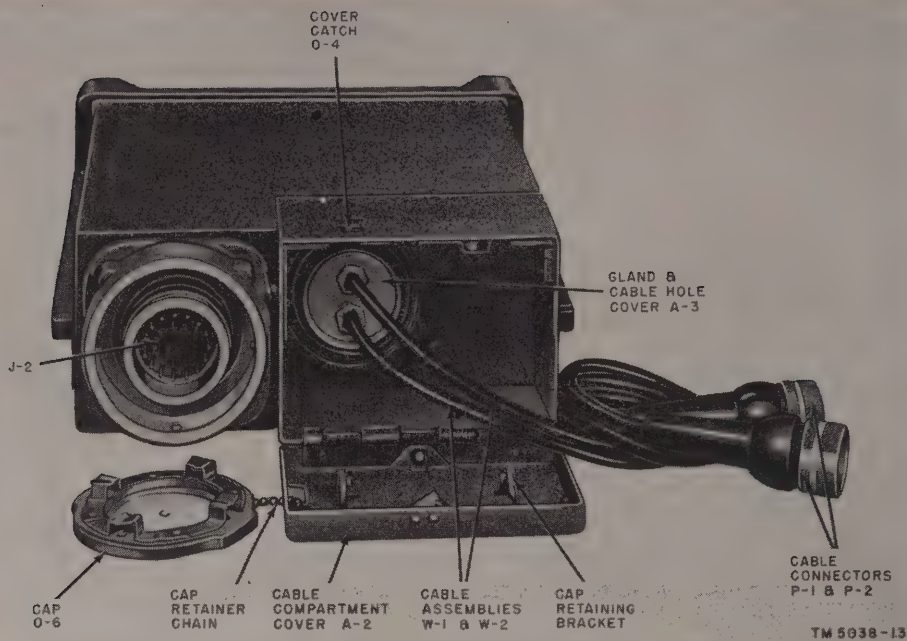

Figure 61. Local Control C-434/GRC, rear view.
Channel rails are fitted to the sides of the case to permit mounting the unit in the space provided for this purpose on the mounting. The connector at the rear of the control unit (fig. 61) plugs into a mating connector on the mounting, establishing a connection between the control unit and the radio sets installed on the mounting.
*b.* The local control also may be connected directly to the panel of the receiver-transmitter by means of plug-terminated cords at the rear of the unit (fig. 61).
receiver-transmitter by means of the Set 1 connecting cable located in the cable compartment of this unit (fig. 61). (When this latter method of connection is used, remote power control of the radio set is impossible.) Plugging the local control unit directly into the mounting is the most convenient method. This method should be used with Radio Sets AN/VRC-20, -21, and -22. Both methods are described below.
- (1) Remove the protective cover plate from the large plug (J-2) at the rear of the unit (fig. 61).
- (2) Open the cable compartment by pressing the snap catch at the rear of the unit. Snap the cover plate in place in the cap retaining brackets on the inside of the storage compartment. Close the cable compartment cover.
- (3) Slide the control unit by its runners into the mounting as far back as possible. Then lock the unit in place by means of the locking lever on the mounting.
pressing the snap catch at the rear of the unit (fig. 61). Extend the two cables that are located within this compartment.
b. Replace the protective cover on the plug at the rear of the local unit (fig. 61), and con-